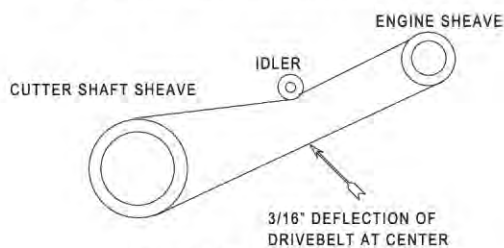

Fig.17: Belt tension guide
- ii. Check the tension at the center of the span on the bottom side of the belt. A properly tensioned belt will deflect 3/16" with 13 pounds of pressure applied to it (see Figure 17).